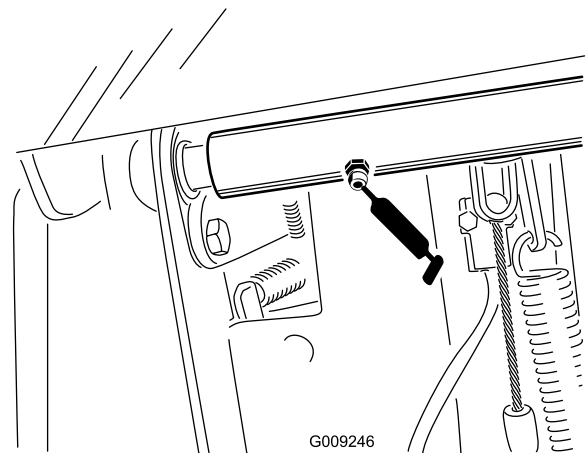

Figure 34
- 2 brake pedal pivot-shaft bearings (Figure 34)